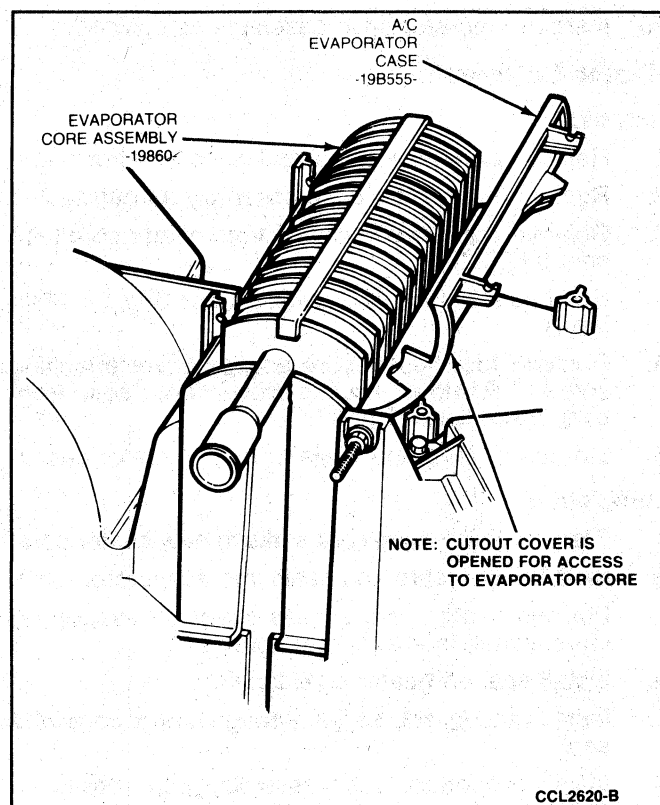

FIG. 29 Evaporator Core Removal from Case
9. Fold cutout cover back from opening and lift evaporator core from case (Fig. 29).